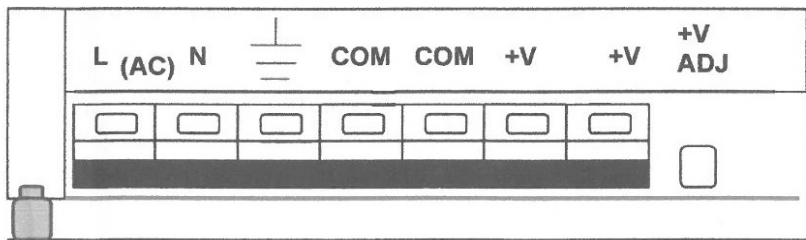

Fig 1
- Connect the LED driver to the mains supply ensuring the correct polarity is observed (see Fig 1). Live (brown), Neutral (blue) and Earth (green/yellow)